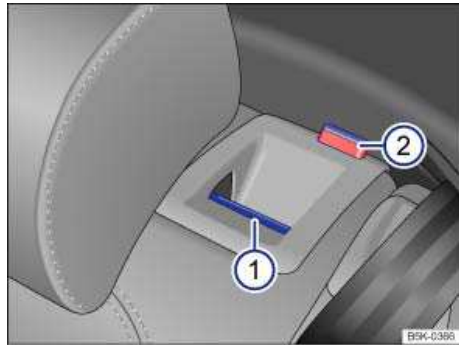

Fig. 95 Rear seat backrest: Release button 1; red mark 2.
- Pull the release button ⇒ fig. 95 (1) forward while folding the rear seat backrest forward.
- The rear seat backrest is unlocked when the red mark on the button (2) is visible.
- The rear seat backrest is unlocked when the red mark on the button ⇒ fig. 95 \(2\) is visible.